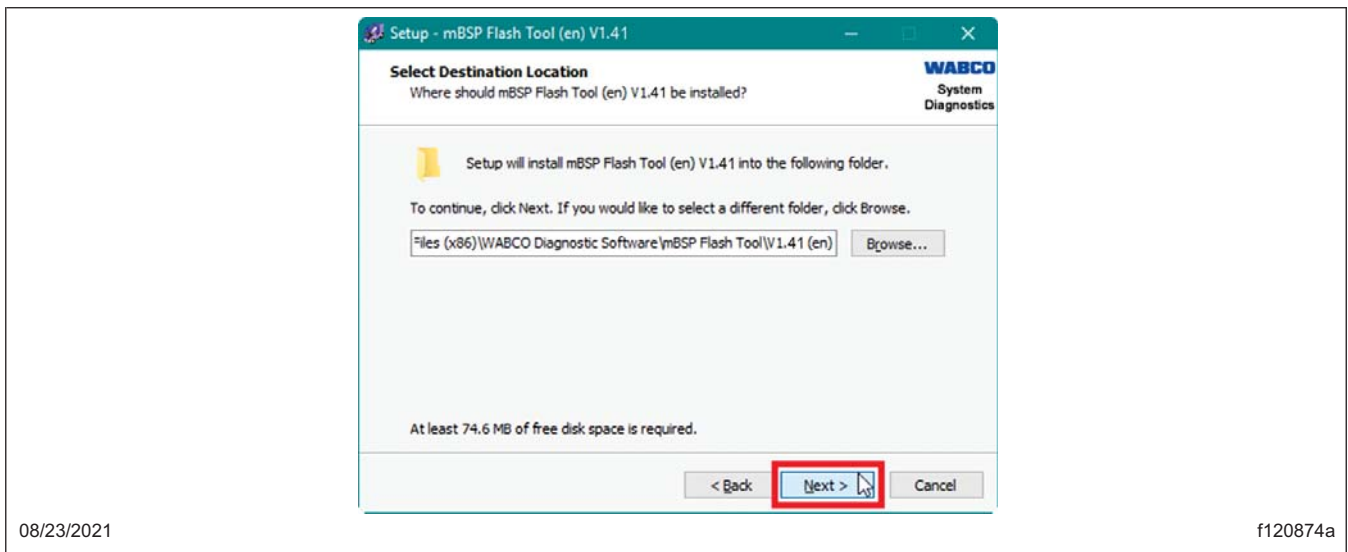

Fig. 14, Selecting the Destination Location of the mBSP Flash Tool
7.8 The 'Select Destination Location' window will appear. Verify the destination and select 'Next.' See Fig. 14.